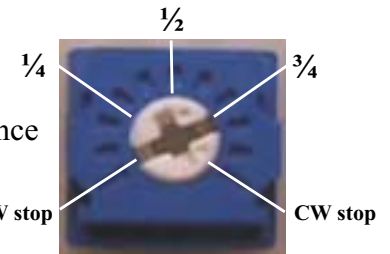

Figure 7 Wiper arm positions
- 2) Breakdown the region between full CW and full CCW of the potentiometer as shown in Figure 7. Your locations for 1/4, 1/2, and 3/4 turn should be similar to Figure 7.